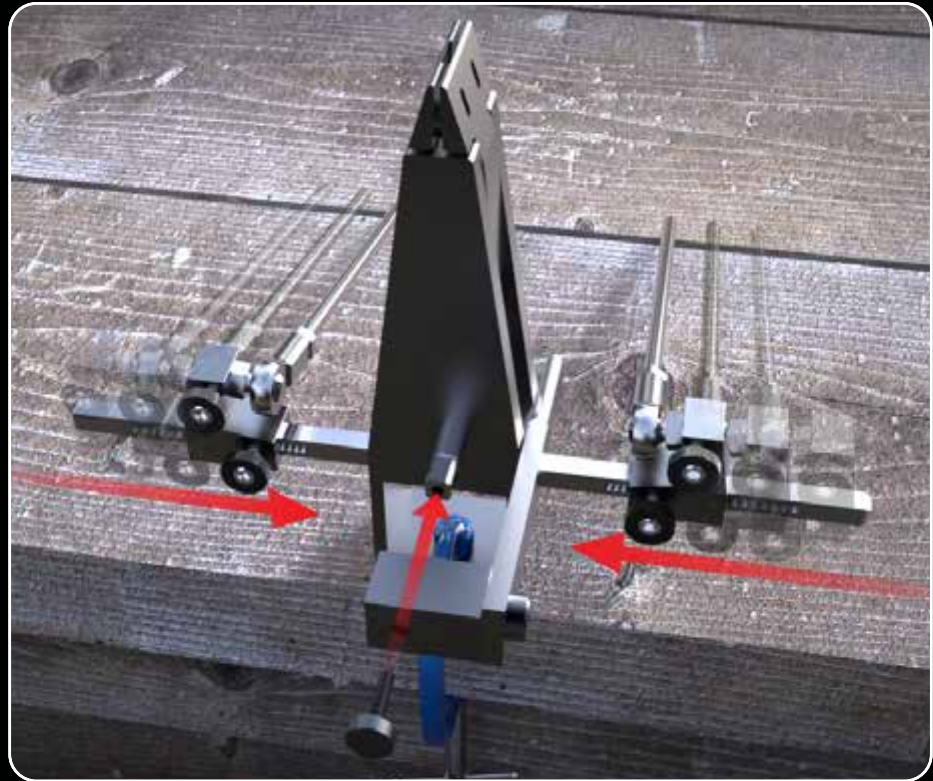

Fig. 2
Step 1: Attach the #4 Vise Lever to the sharpener by sliding the square hole on the Vise Lever Block onto the #2 Cam Shaft as shown in Figure 2. When attached the lever should be to the right of the Vise Jaw. Use the #5 Thumb Screw to fasten the Vise Lever to the Cam Shaft.
Step 2: Slide the #7 Guide Rods onto the #4 Degree Bar as shown in Figure 2. The Ball Joints should be facing inward toward the Vise.